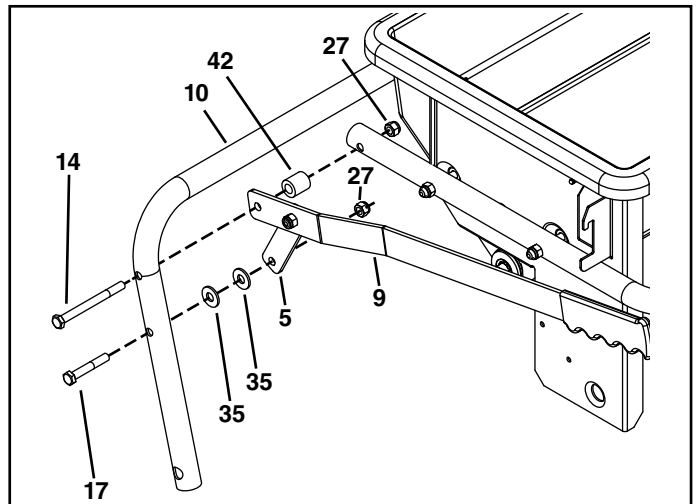

FIGURE 3
- Insert a 5/16" x 3-1/2" hex bolt (14) through the transport tube (10), the lift handle (9), a spacer (42), and through the hitch tube. Secure with a 5/16 nylock nut (27).
- Insert a 5/16" x 2" hex bolt (17) through the transport tube (10), two 5/16" flat washers (35), and the handle brace bracket. Secure with a 5/16" nylock nut (27). **Tighten.** See figure 3.